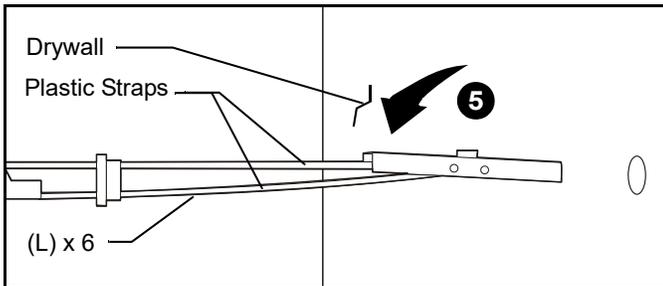

Figure 8
5. Hold metal channel on anchor (L) flat alongside plastic straps and slide channel through hole. (See Figure 8)